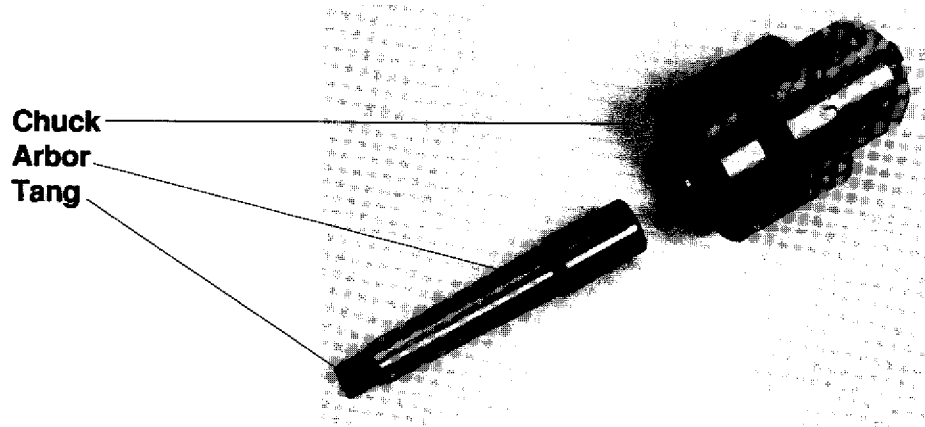

**FIGURE 5**
9. Place the table into the hole in the table bracket and secure with the handle (See Figure 5).